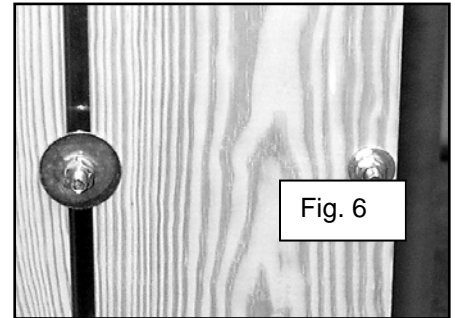

Fig. 6
16. Insert the 5/16"-18 x 1-1/2" carriage bolts through all holes in the bed strips. A few of the bolts will not line up with anything. These bolts will get a 1-1/2" outside diameter washer on the bolt before the lock washer and nut. This bridges the gap between the boards on the bottom side. See figure 6.
20. There were bolts from the bed sides that did not line up to anything on the bottom. These will get a 1" outside diameter washer installed before the lock washer and nut. This keeps the lock washer and nut from crushing into the wood. See figure 6.